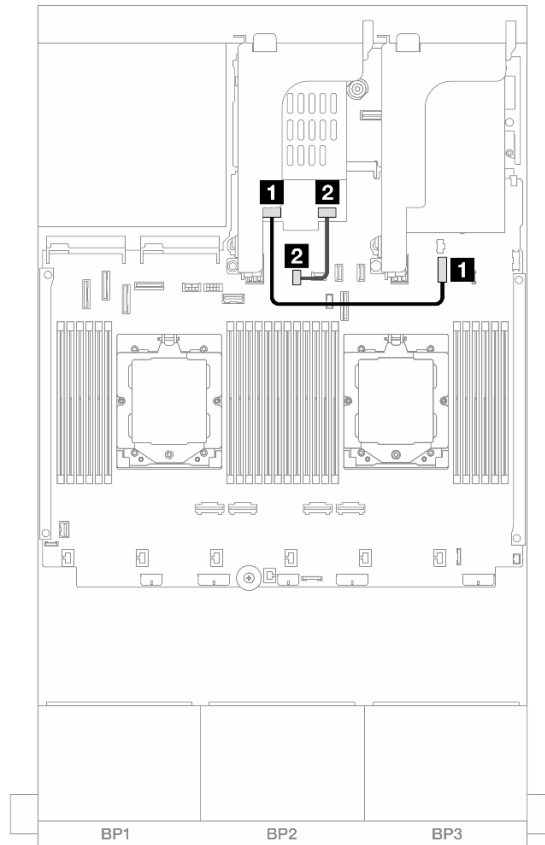

Figure 307. NVMe cable routing
- Figure 307 “NVMe cable routing” on page 313